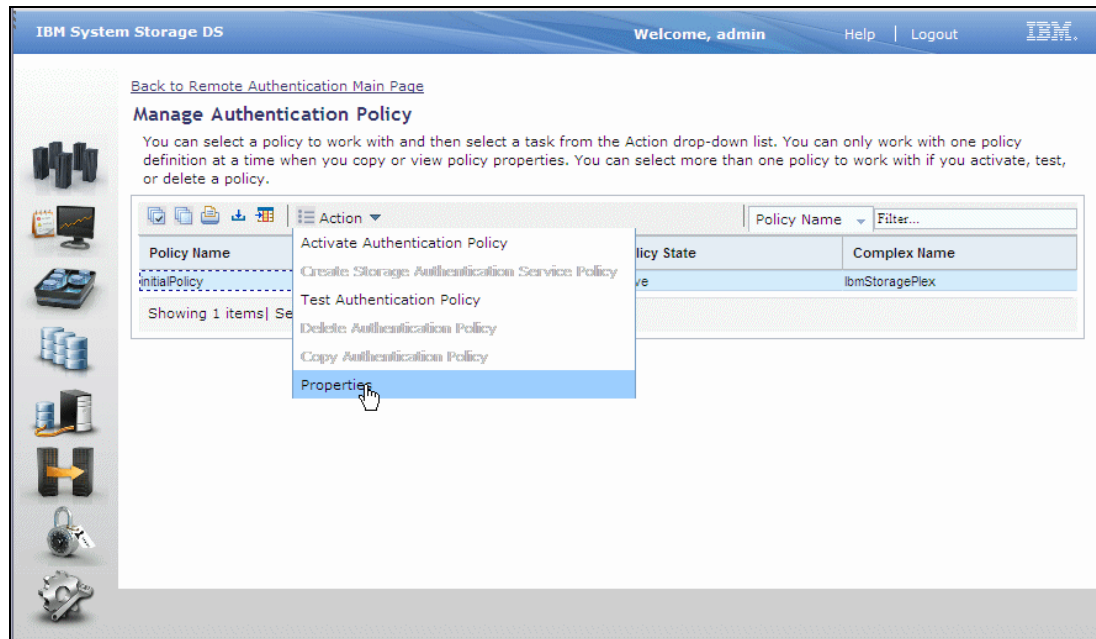

Figure 9-12 Selecting a security policy
- The next window displays all of the security policies on the HMC for the storage complex you chose. Note that you can create many policies, but only one at a time can be active. Select a policy by highlighting the row. Then select **Properties** from the **Select** menu as shown in Figure 9-12.